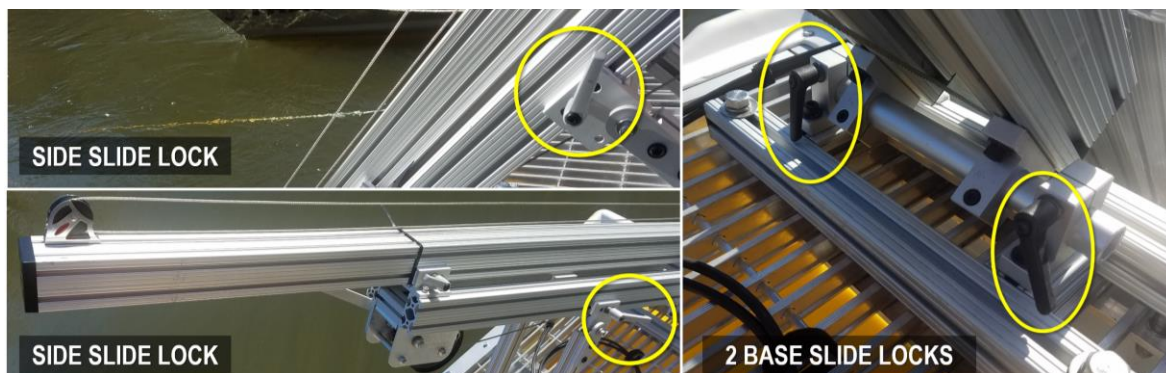

Figure 33. D03 FLNT ONLY: Four Slide Locks to Flatten Retractable PAR Mounting System for Transportation
9. For D03 FLNT: Bring the retractable uPAR mounting system above water and flatten the assembly on the deck using the six slide locks. Two slide locks bring the extendable arm with uPAR amount above water (reference Figure 70 on page 67). Four slide locks enable the mounting system to lay flat on the deck for towing (one on each side and two at the base in Figure 33).